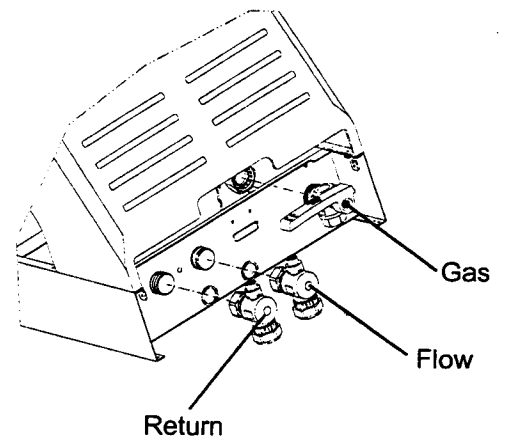

Fig.10a
5.3.4 Loosely fit (hand tight) the valves and fittings using the washers supplied (Fig.10a). Face the valves towards the back of the appliance.